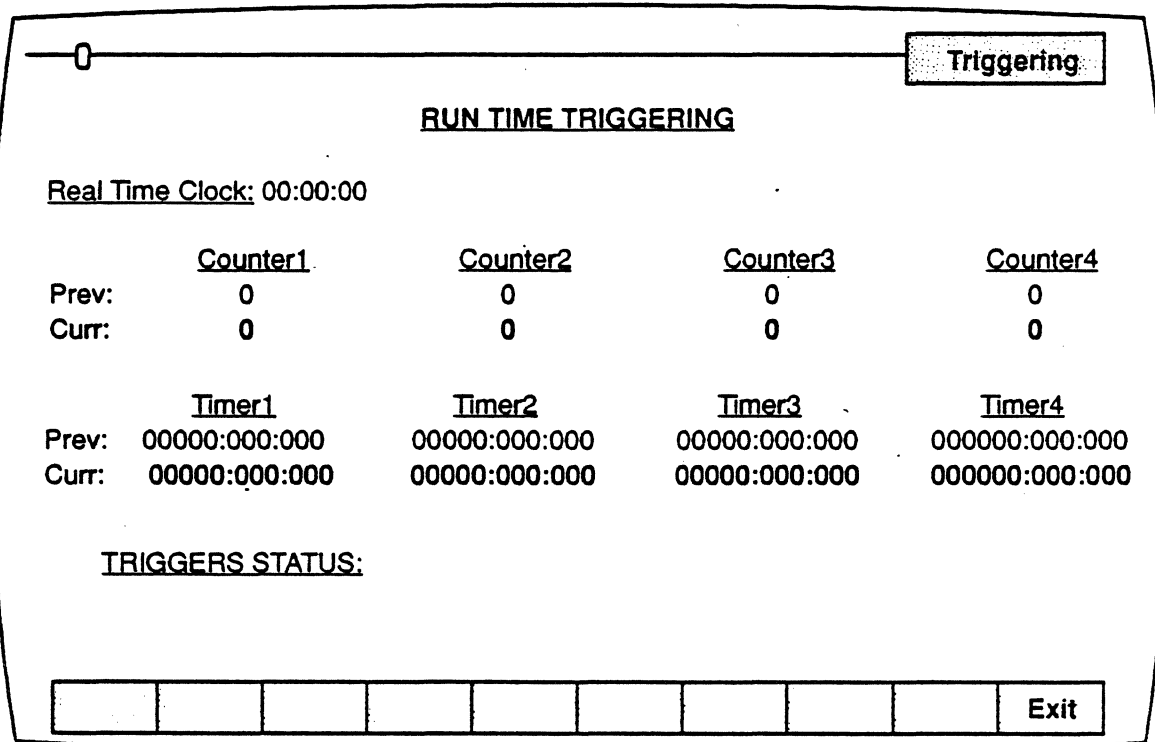

Figure 8.18: Run-Time Triggering Page.
**Note:** The Run Time Triggering page (see Figure 8.18) displays the status of a maximum of 20 triggers.